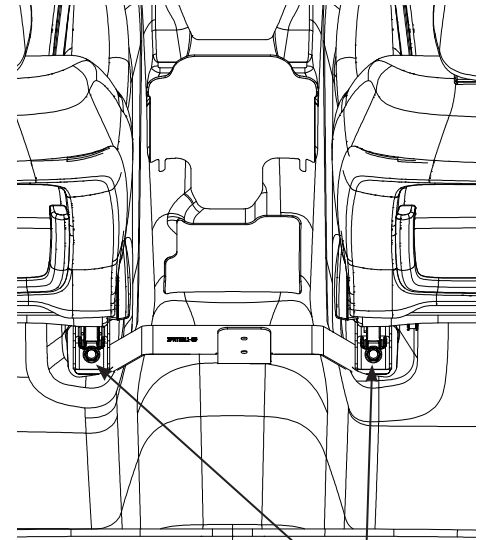

FIG. 13
- A. Remove the two 17mm rear seat bolts where the Bridge Bracket (3PK5314-05) will bolt to (See Fig. 13). Lift the rear seat frame up and slide the bracket underneath the frame at the locations where the bolts were removed. Position the bracket so the bolts may be reinstalled.